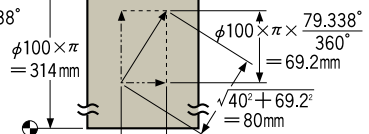

Fig. 2
1. Make a development elevation like Fig.2 to calculate the vector.
2. Give feed in lead cutting (cutting feed from ① to ②) .....e.g. 200 mm/min (depend on work piece materials).